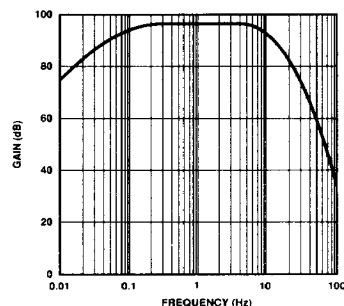

FIGURE 8: 0.1Hz to 10Hz Peak-to-Peak Voltage Noise Test Circuit Frequency Response
4. The test time to measure 0.1Hz to 10Hz noise should not exceed 10 seconds. As shown in the noise-tester frequency-response curve of Figure 8, the 0.1Hz corner is defined by only one pole. The test time of 10 seconds acts as a additional pole to eliminate noise contribution from the frequency band below 0.1Hz.